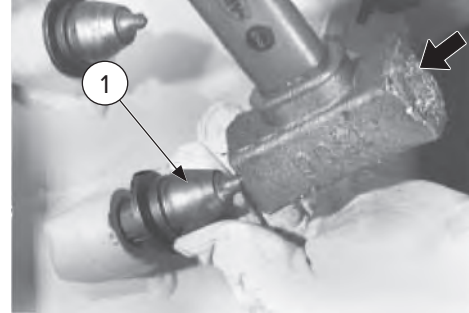

Figure 27
2. Insert the tooth [Figure 27, Item 1] into its holder using light blows with a copper hammer until the tooth top is fully inserted.